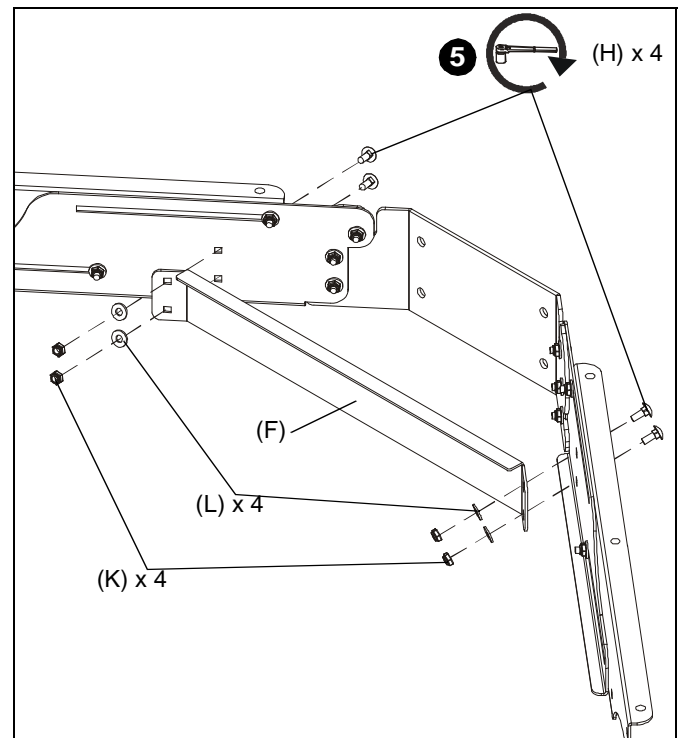

Figure 3
5. Attach center brace (F) to base bracket assembly using four 10-24 x 3/8 round head carriage bolts (H), four #10 flat washers (L) and four 10-24 nylon lock nuts (K). (See Figure 3)